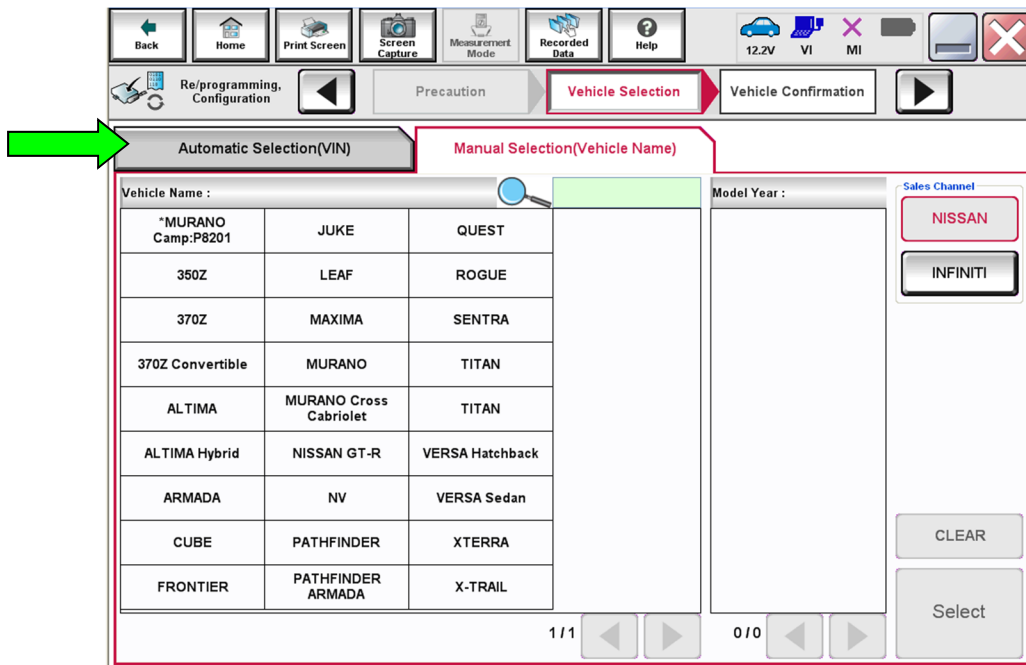

Figure 6
11. If the screen in Figure 6 displays, select **Automatic Selection(VIN)**.
- If the screen in Figure 6 does not display, skip to step 12.